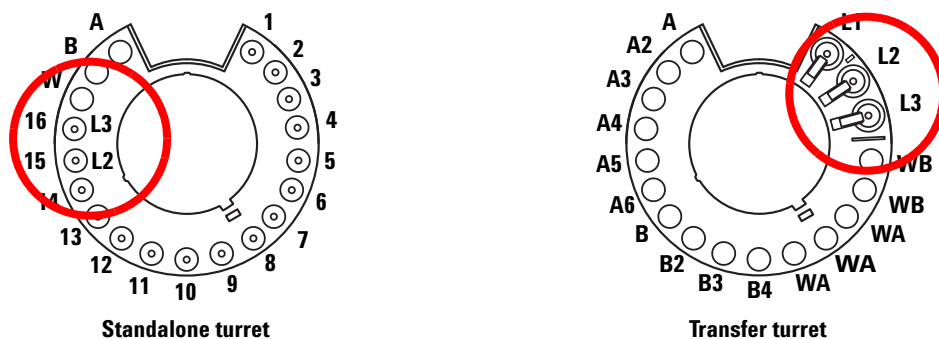

Figure 57 Turret vial locations for sandwich injections
When loading vials for sandwich injections, layer 1 (L1) can be placed in any turret position 1-14 if using a standalone turret, or in any tray position 1-150 if using a transfer turret with sample tray. The vials for layer 2 (L2) and layer 3 (L3) must be placed in turret positions **L2** and **L3** (Figure 57), respectively.
- 3 Place the solvent B vial (L3) in turret position **L3**. Refer to Figure 57 on page 185 for turret position information.